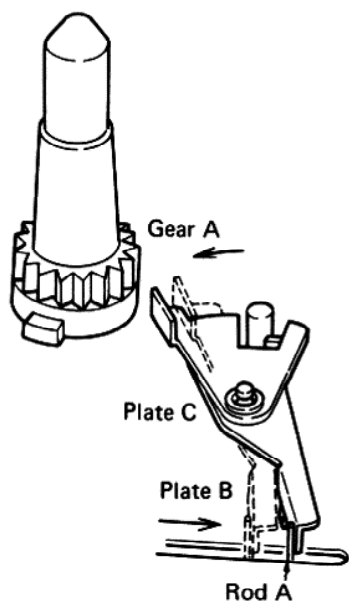

Fig. 11
2. Rod A pushes plate B and plate C above plate B moves in the direction toward gear A (Fig. 11).